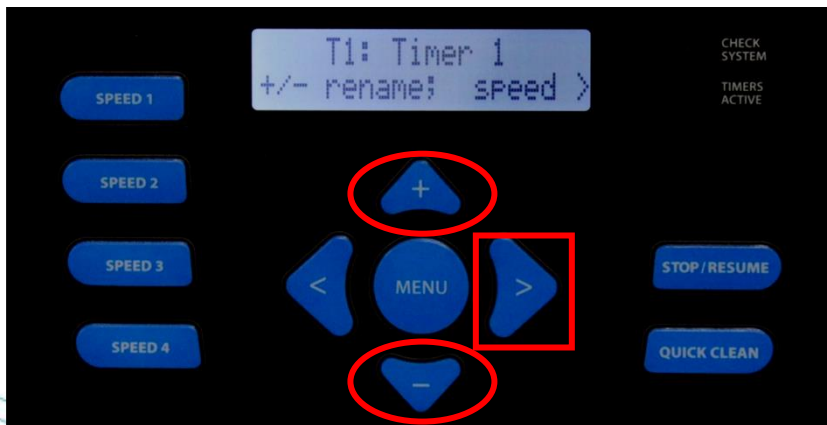

Figure 45
- This screen allows you to rename Timer 1 to match a selection including; Cleaner, Water Feature, Clean, etc by pressing the  &  button (fig 45). Press the  button to continue.